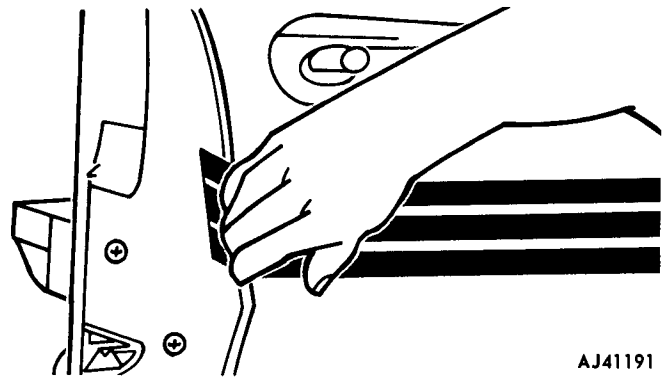

Fig. 20-8 Overlapping Decal at Corners or Edges
(12) Where possible, extend decal 1/2 inch beyond corners or edges (fig. 20-8) and wrap firmly using finger pressure and squeegee. Avoid trapping air in these areas.